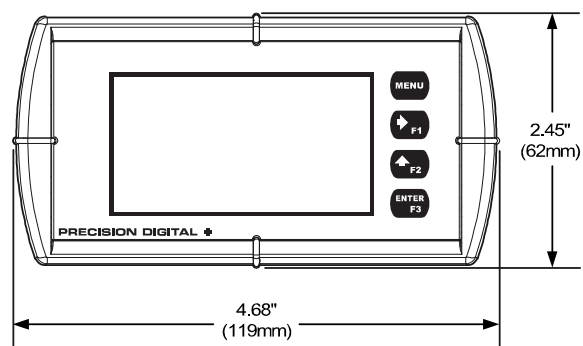

**Figure 1. 1/8 DIN Panel Cutout Dimensions and Panel Mounting Details**
- Prepare a standard 1/8 DIN panel cutout – 3.622" x 1.772" (92 mm x 45 mm). Refer to Figure 1 below, for more details.